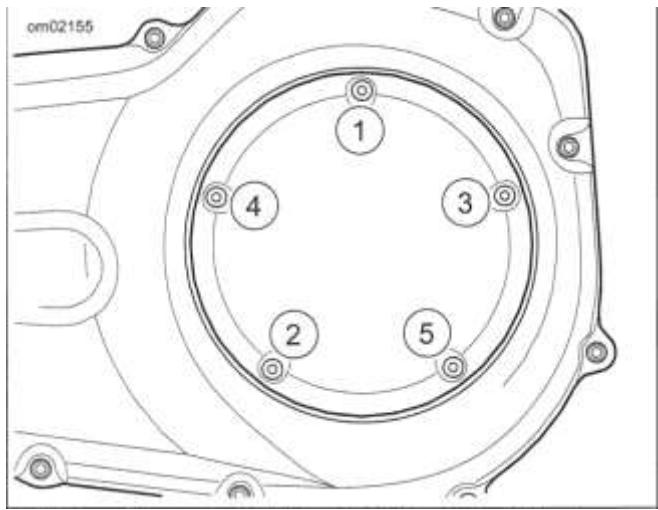

Figure 2-8. Clutch Cover Tightening Sequence
- c. Secure clutch inspection cover (2) with screws with captive washers (3).
- d. See Figure 2-8. Tighten in sequence shown to 84-108 in-lbs (9.5-12.2 N-m).
- 3. Screw and captive washer (5)